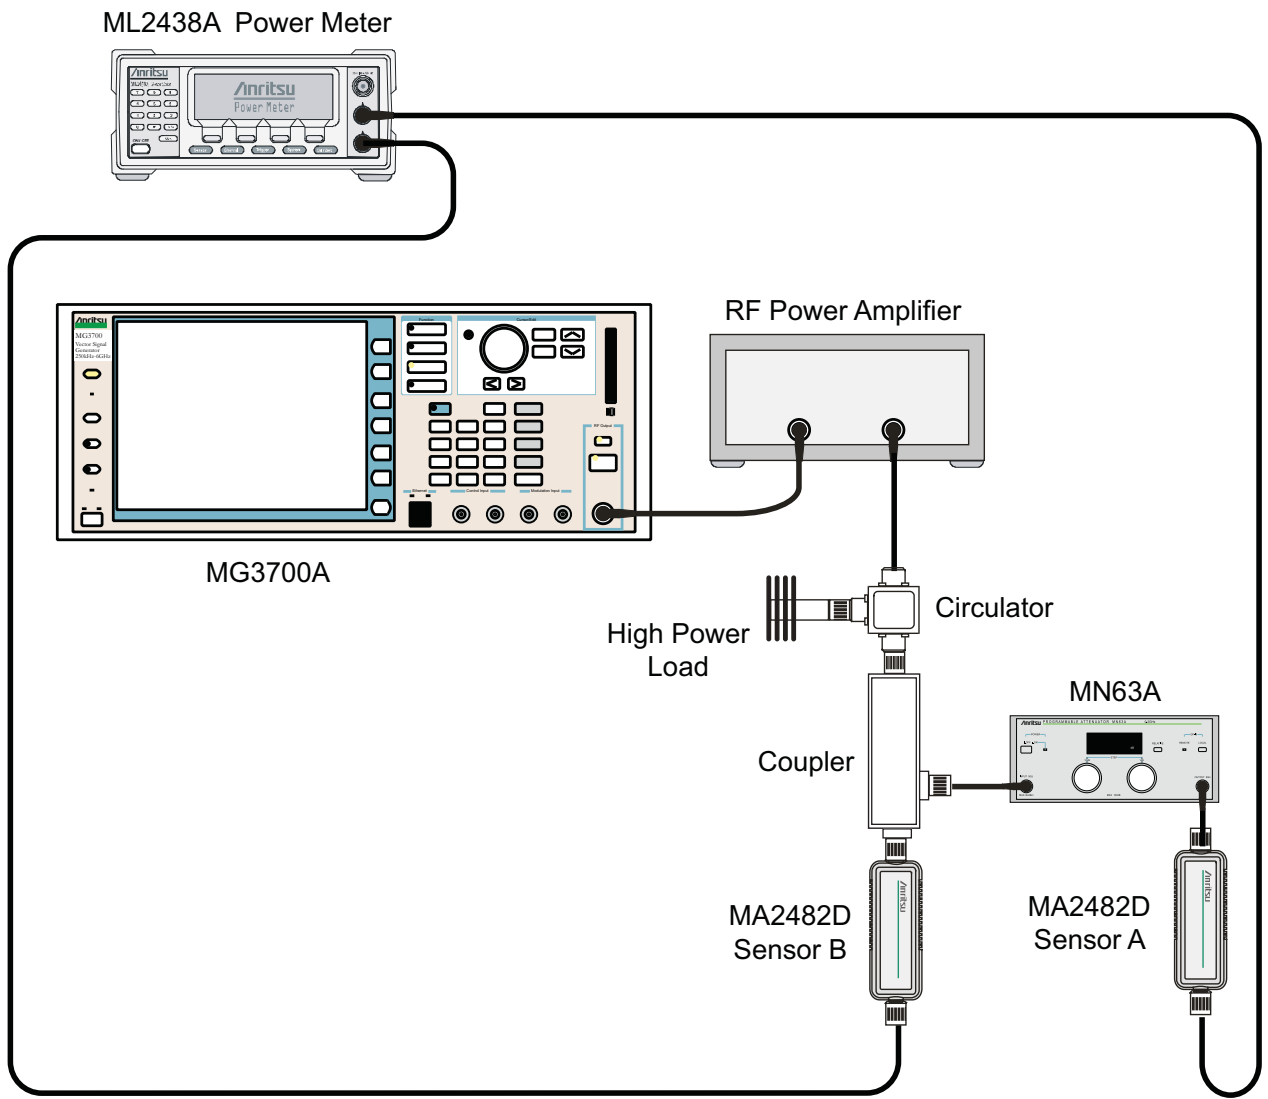

Figure 3-10. WCDMA Signal Analyzer Option Verification (Setup 1)
2. Connect the MG3700A, RF power amplifier, attenuator, power meter, and sensors as shown in Figure 3-10.
4. Press the **On/Off** key to turn on the MS271xE and wait until the measurement display appears. Then press the **Shift** key and press the **Mode** (9) key to activate the mode selection menu.
6. Press the **Shift** key, the **Preset** (1) key, and then the Preset submenu key.